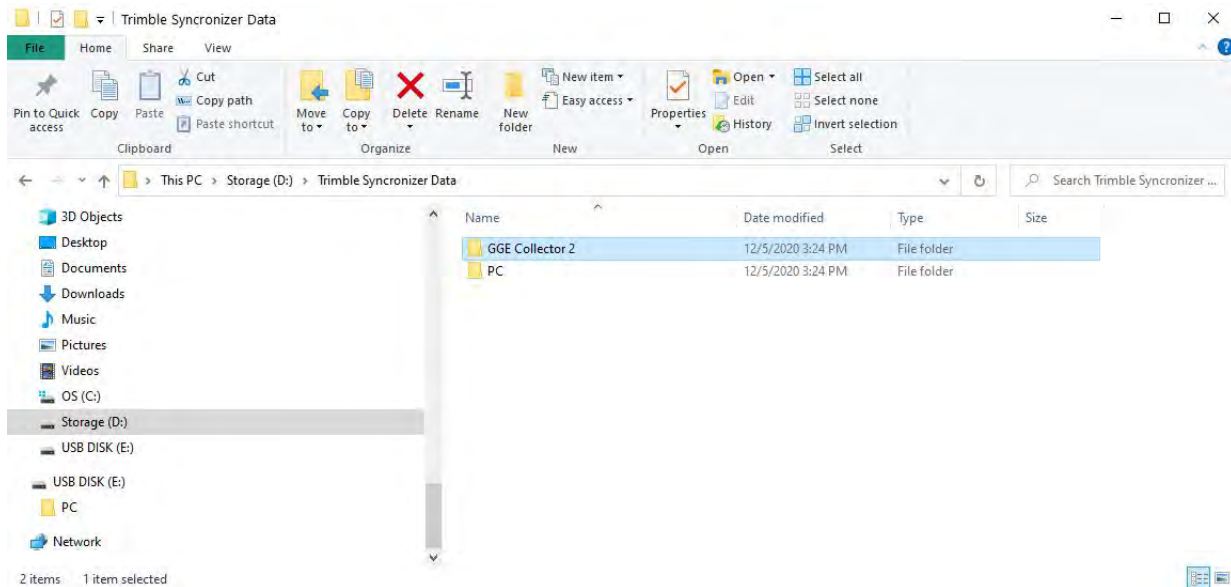

Figure 11. Data Collectors Directories
Step 1: Transfer the field collected information from the data collector to the L: Drive Server. A Directory called Trimble Synchronizer Data houses the data backup for the Data Collectors. Within this directory you will find two directories, one named “PC” and the other named “GGE Collector 2” (Figure 11). The “PC” directory is the backup from the TSC7 while the “GGE Collector 2” directory is the backup from the TSC2. Plug an IT issued USB flash drive (thumb drive) into the data collector USB port and then copy the entire directory from the data collector onto the flash drive. Remove the flash drive from the data collector and then plug it into the site computer and then transfer the same directory into the appropriate directory on the server.
Step 2: Locate the appropriate SCS Report Utility in the “Forms” directory on the L: drive (Figure 11). Open this Excel File. Use Excel “SCS Report Utility-64” that corresponds to the data collector in which you conducted the survey. (SCS Report Utility-64 TSC7 and SCS Report Utility-64 TSC2).